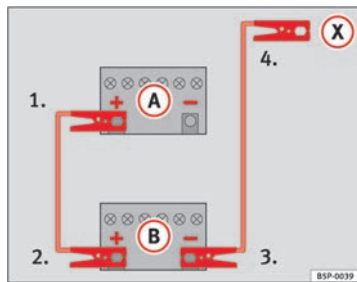

Fig. 204 How to connect the jump leads
⇒ fig. 204 (A) shows the flat battery and (B) the charged battery.
1. Connect one end of the red jump lead to the positive ⇒ fig. 204 (+) terminal of the vehicle with the flat battery ⇒ ⚠.
4. Connect the other end of the black jump lead (X) to a solid metal component which is bolted on to the engine block, or onto the engine block itself of the vehicle with the flat battery. Do not connect it to a point near the battery ⇒ ⚠.